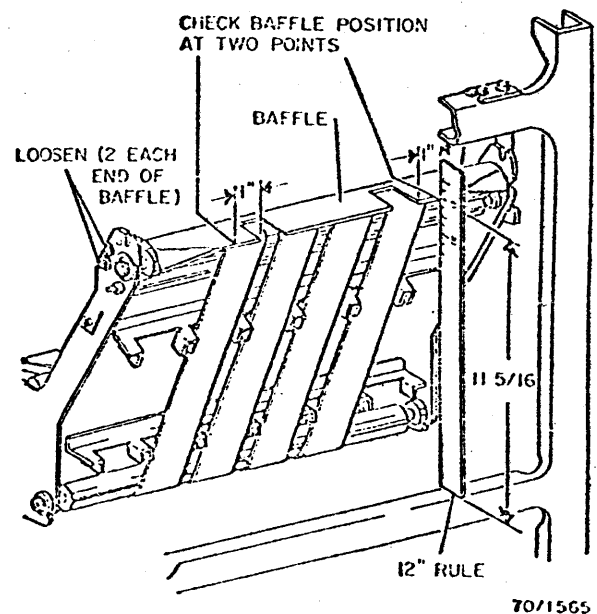

Fig. 3-211. Baffle Adjustment
2. Check baffle position at two points (Fig. 3-211).